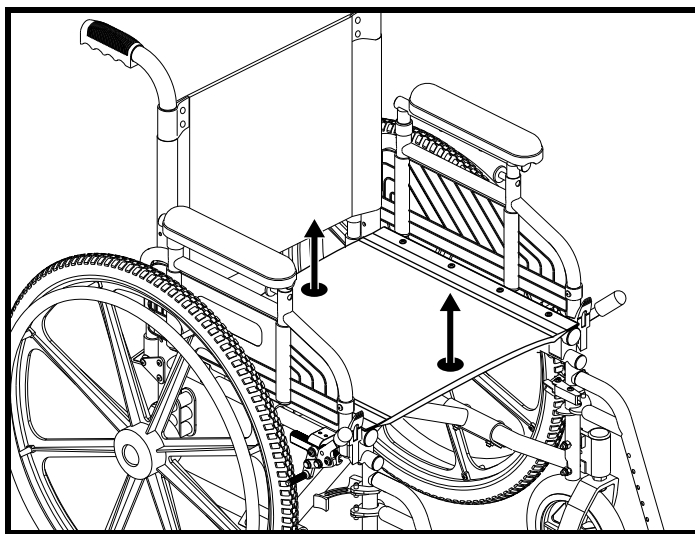

Figure 9. Folding the Stylus
3. Hold the seat base by the center at the front and at the back. See figure 9.